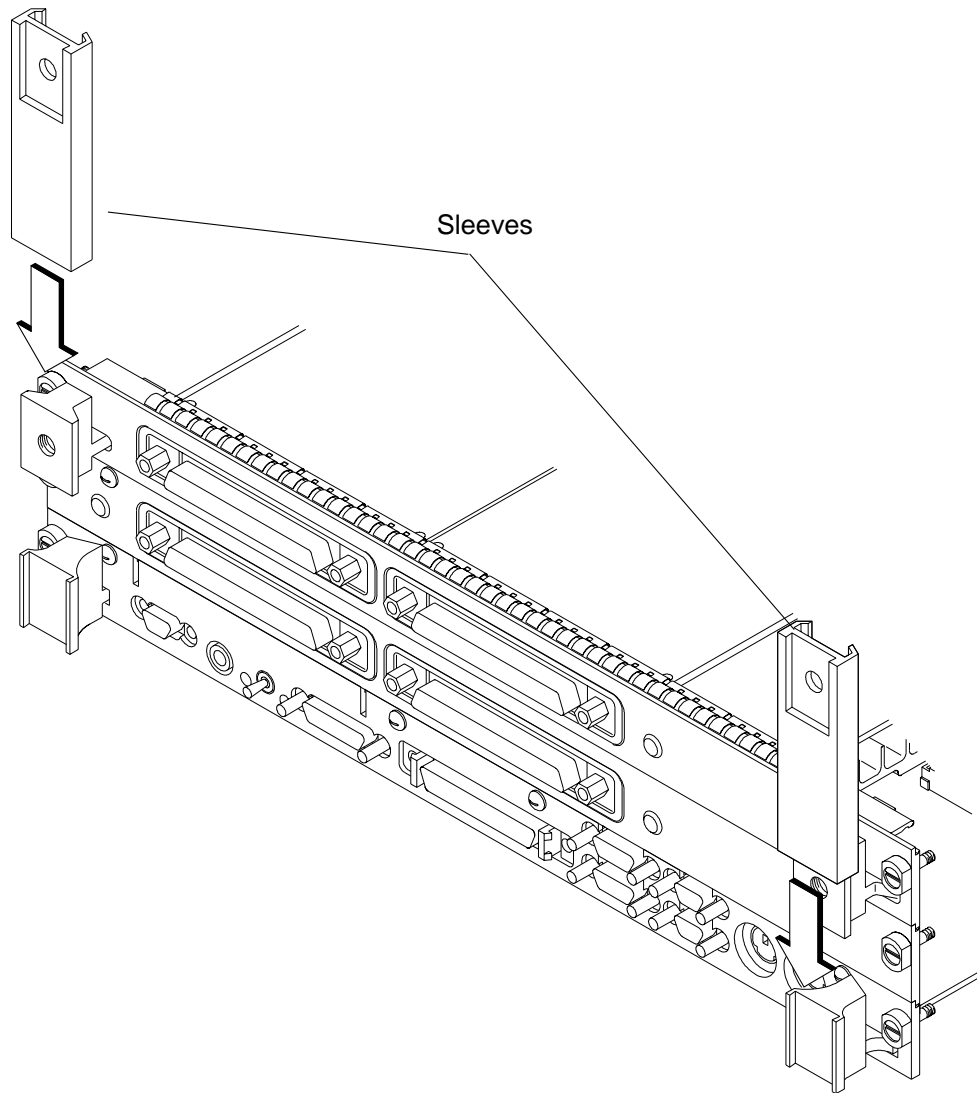

Figure 2-13 **Installing Ejector Handle Sleeves**
- b** Slide the sleeves over each set of handles, as shown in Figure 2-13.